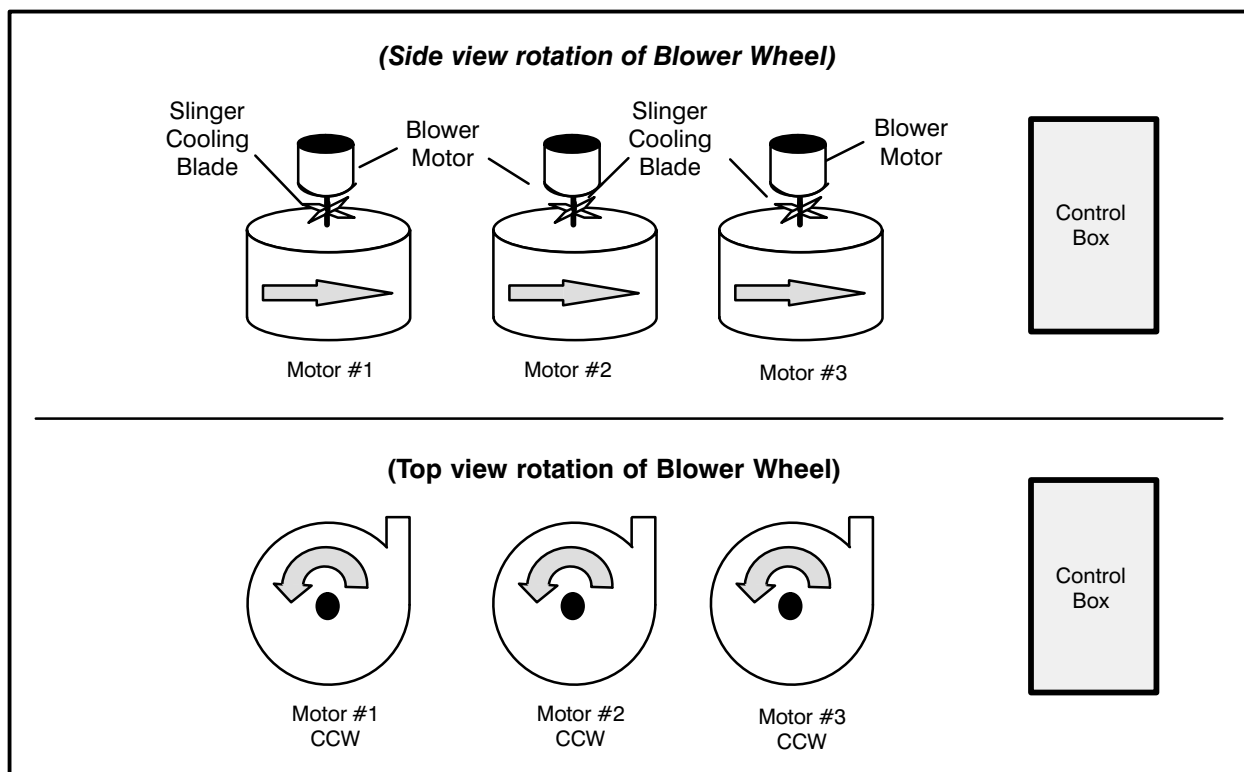

FIGURE 1
1. Remove the back of the oven body and verify proper motor rotation. (See FIGURE 1)
For motor placement, the direction of rotation is viewed from the oven's rear and working from left to right, beginning at the control box. In most cases, the motor direction is referenced to the end of the shaft (EOS). However, due to the vertical positioning of the motors in Mastertherm ovens, it is more instructive to reference the end of the motor (EOM) as looking from the rear of the oven. In FIGURE 1 all directions are taken from EOM. The correct rotation amperage draw is approximately 1 amp. If the measured amperage is less than .5, check for proper motor rotation direction.